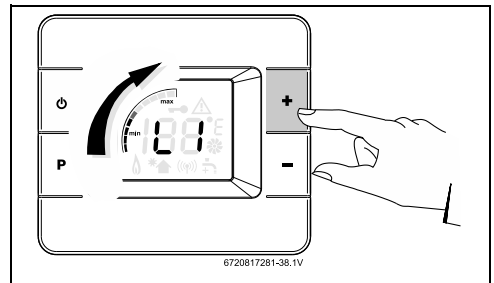

Fig. 48 Gas adjust - L1 parameter
- ▶ Press the button  to enter L1 and verify if power bar level is at middle point, see fig. 48.